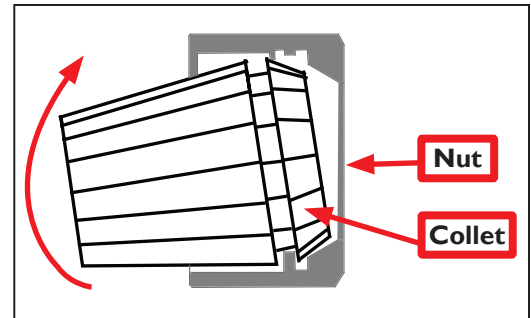
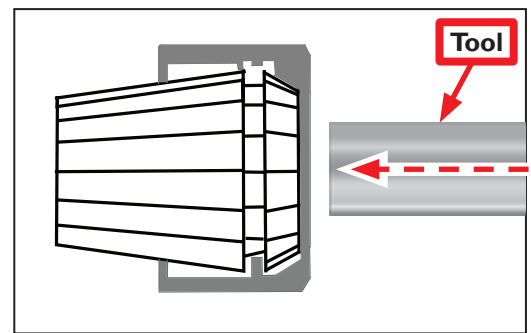

Figure 2
Figure 3
Before a tool can be installed, the Collet must be mounted in the Nut (see **Figure 2** and **Figure 3**):
1. Holding Collet at an angle (see **Figure 2**), tip Collet to snap into place in Nut as shown in **Figure 2**.
2. Insert assembly into collet holder. Tools are inserted into self-extracting Collet at location indicated in **Figure 3**.